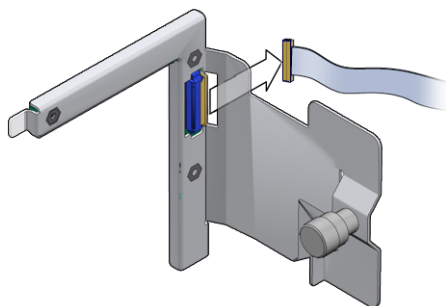

FIGURE 5-24 Disconnecting Cable From the LED Board
6. **Disconnect the cable from the LED board (FIGURE 5-24).**